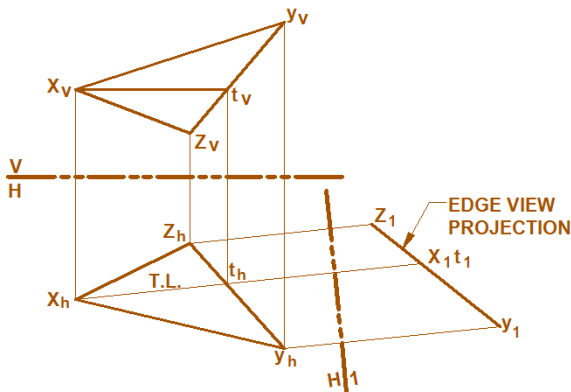

Fig. 2.17 Edge view of an oblique plane
oblique plane XYZ shown in Fig. 2.17, line XT is a horizontal line. The auxiliary elevation plane (1) perpendicular to $x_h t_h$ is thus a projection plane perpendicular to plane XYZ and gives its edge view. In general, the steps to be followed to obtain the edge view of an oblique plane XYZ in space from two given principal views are as follows:
- iii. Setup an auxiliary plane (1) perpendicular to $x_h t_h$
- iv. Project points X, Y and Z onto auxiliary plane (1). The projection $x_1 y_1 z_1$ will be a straight line, representing the edge view of plane XYZ.